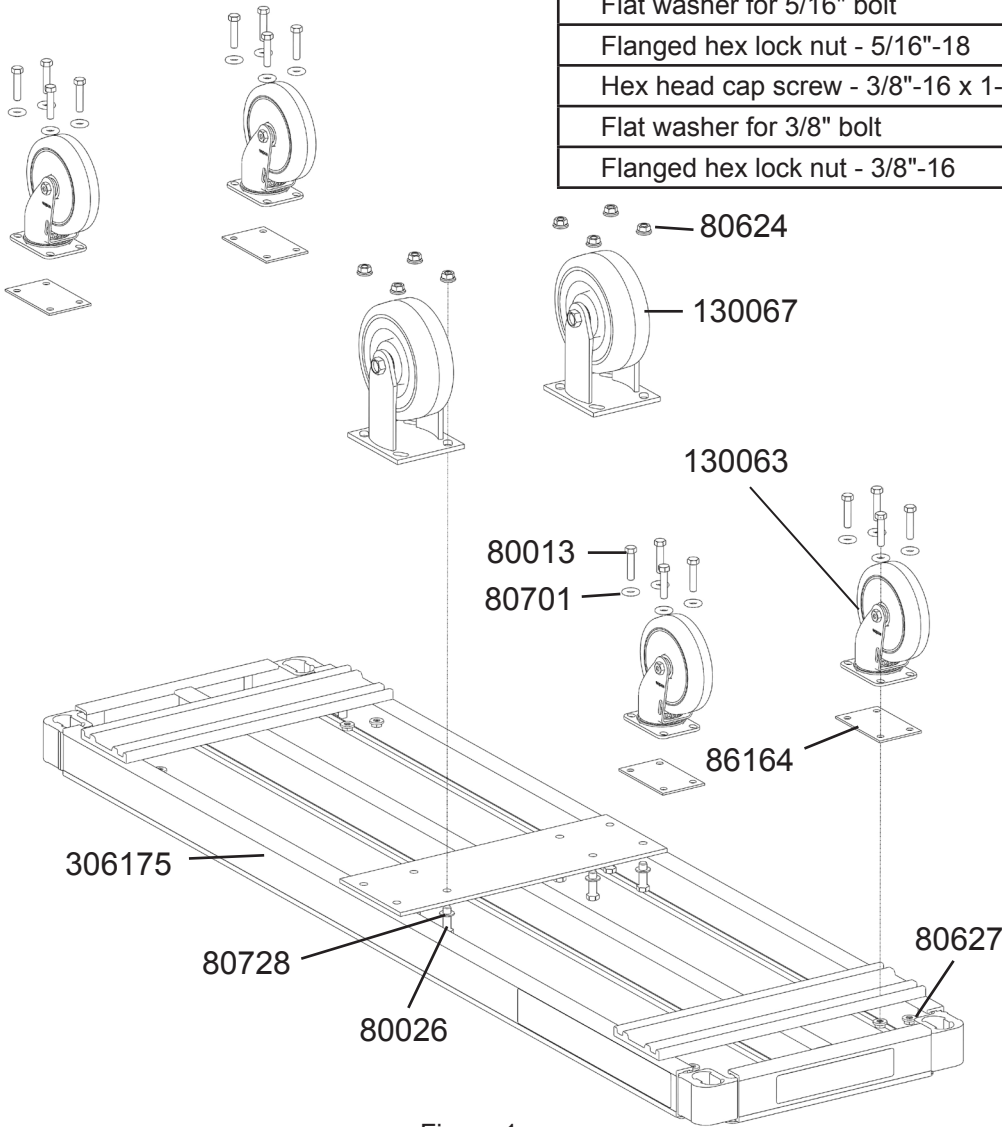

Figure 1
1. Using the 5/16"-18 x 1-1/2" hex head screws, 5/16" washers and 5/16"-18 flanged lock nuts, attach all four of the swivel caster plates and the 5" swivel casters onto the deck as shown in Figure 1.
2. Using the 3/8"-16 x 1-1/4" long hex head screws, the 3/8" washers and the 3/8"-16 flanged lock nuts, attach both of the 6" rigid casters onto the deck as shown in Figure 1.